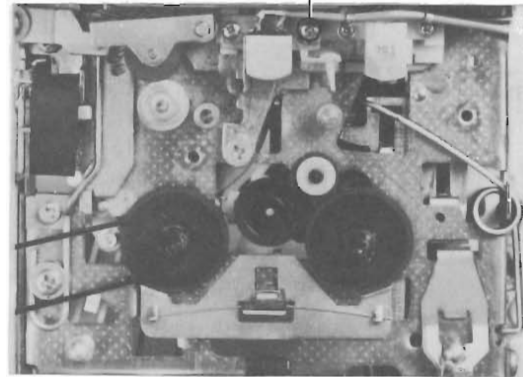

Fig. 3
- ① Load instrument with test tape TEAC-MTT-116L (or equivalent).
- ② Observe the output (10kHz tone signal) of the right and left channel with a VTVM connected to the output terminals (See circuit board diagram of ST-3440).
- ③ Adjust azimuth screw (See Fig. 3) for maximum output.